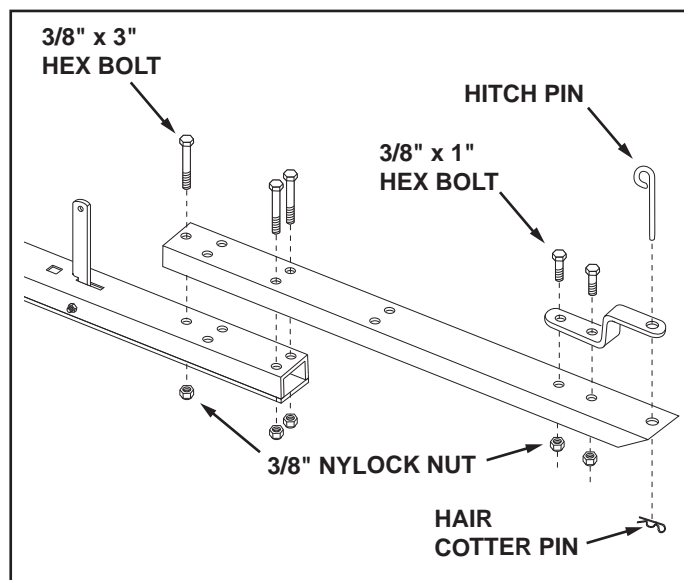

FIGURE 2
- Attach the hitch bracket to the front tongue using two 3/8" x 1" bolts and 3/8" nylock nuts. See figure 2.
- Assemble the front tongue on top of the rear tongue using three 3/8" x 3" hex bolts and 3/8" nylock nuts. See figure 2.
- Install the hitch pin and the hair cotter pin in the hitch bracket and front tongue. See figure 2.